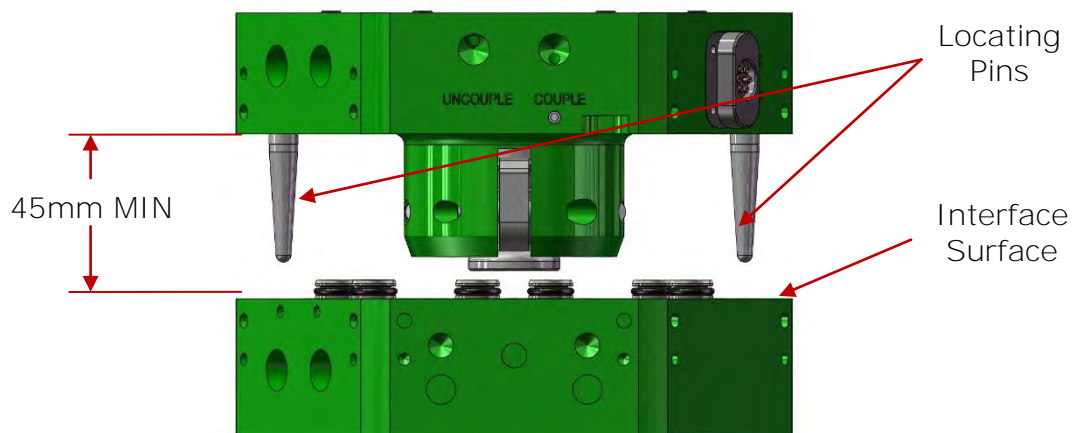

Figure 6.2-1. E80 Tool Changer – Docking Orientation
1. Orient the Robot Adaptor and Tool Adaptor so that the centerline axes are aligned and the interface surfaces are parallel. Maintain approximately 45mm minimum separation between the Robot Adaptor and Tool Adaptor interface surfaces (Figure 6.2-1).